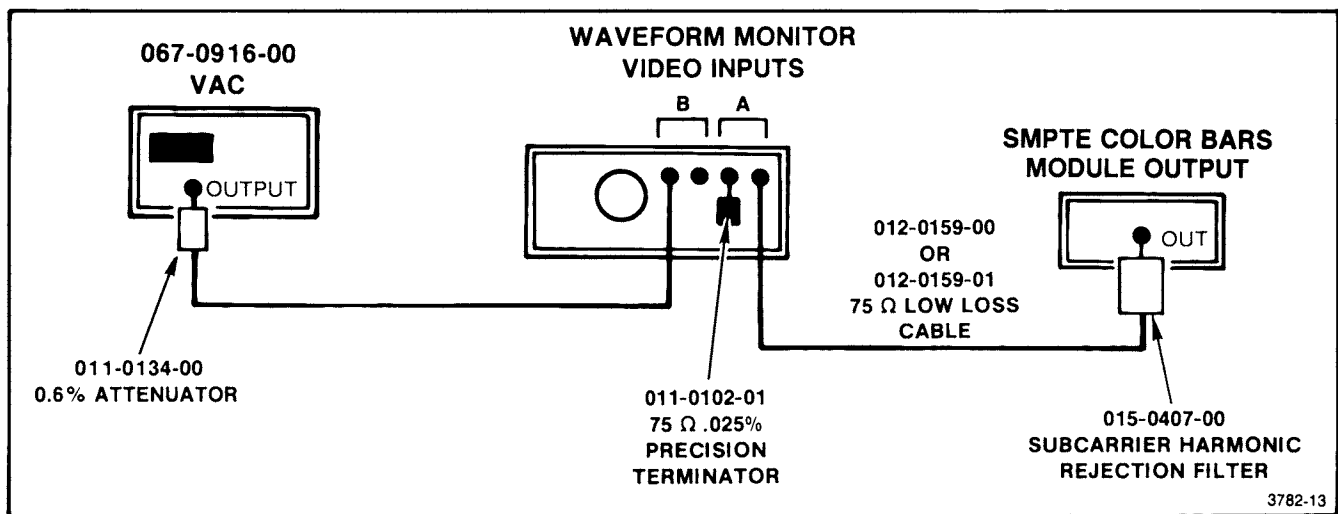

Fig. 4-8. Video Amplitude Calibrator connections for making chrominance measurements.
- b. Connect the VAC and the TSG7 MODULE OUTPUT to the 1480 as shown in Fig. 4-8.